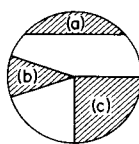

Fig. 3.25
12. Name the parts of the circle shown in Fig. 3.25: